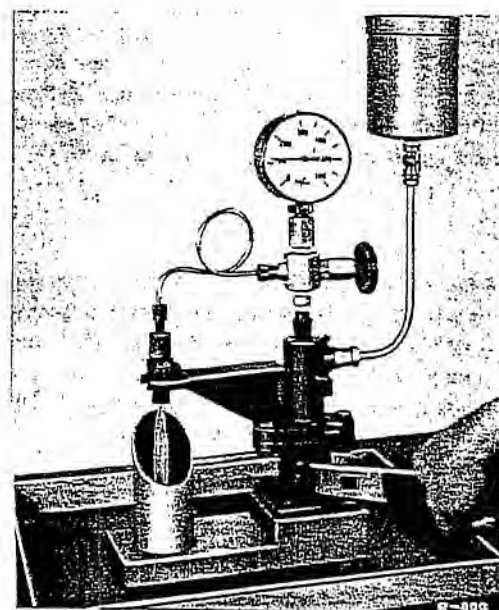

Fig. 07-22/3
1. With the injection nozzle fitted in the nozzle holder connect up to the Bosch Nozzle Tester for Diesel Pumps (Order No. EFEP 60 F or EFEP 340) (Fig. 07-22/3).
Switch on the pressure gage, slowly depress the pump lever (1 stroke per second) and take the pressure at the moment of opening — i. e., at the beginning of injection; during this test the nozzle must be clearly heard to chatter (Fig. 07-22/3).